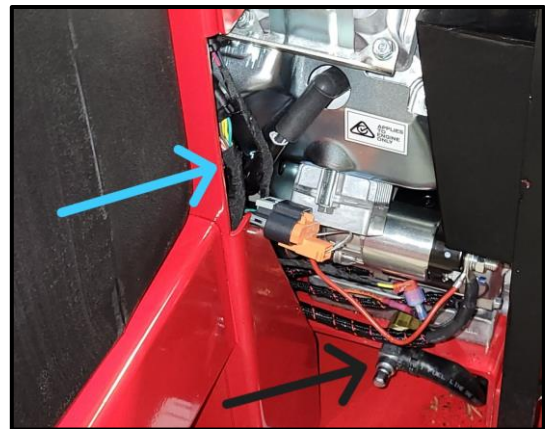

Figure 31 Main Harness Plugs Near Oil Drain Hose
52. Disconnect the 8 pin connector in the area by the blue arrow besides the oil drain hose shown by the black arrow in [Figure 31].